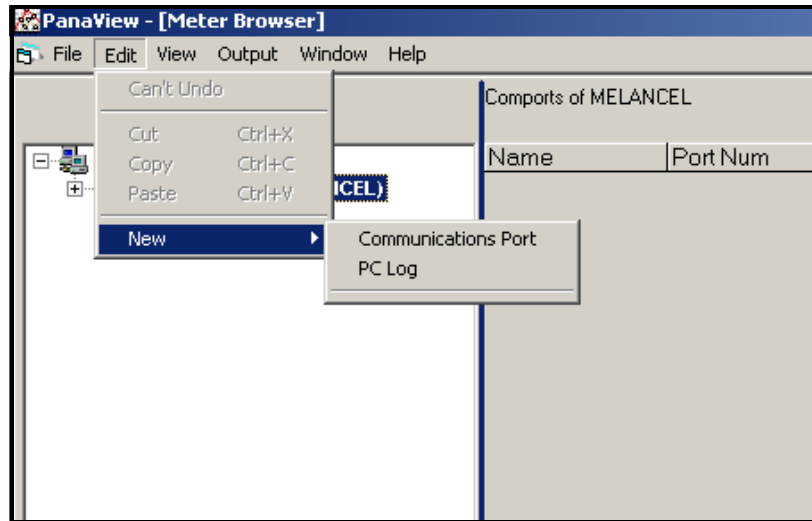

Figure 18: Edit Menu
3. Click on the "New" menu option to select it, and a submenu opens with two choices on it (see Figure 18).